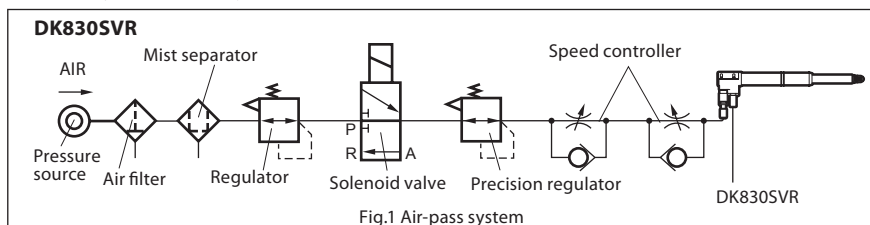

Fig.1 Air-pass system
- In operating the feeler through the air feed port, use such an air-pass system as shown in Fig.1 to enable air driving. The suitable air pressure is approximately 0.1 ± 0.01 Mpa, but adjustment of the pressure control is needed according to the hardness of the object to be measured, location in the measuring unit stroke when the measurement is taken, and other factors. Use a precision regulator (such as IR2010 by SMC or equivalent) to control the air pressure.
- If the spindle ejection speed is too fast, an error may appear on the display the moment that the workpiece is touched. Excessive impact may dislodge the retainer inside the bearing, causing the measuring range to be reduced. In this case, use a speed controller as shown in Fig.1 to adjust the spindle speed.